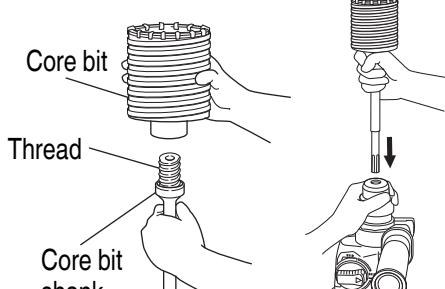

Fig. 25
- (1) Mount the core bit to the core bit shank (Fig. 25).